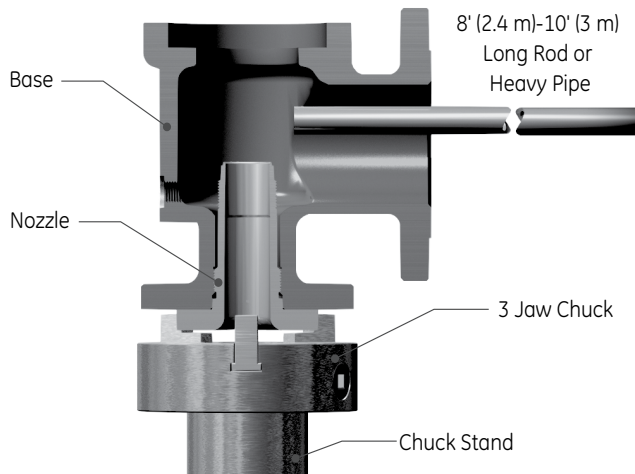
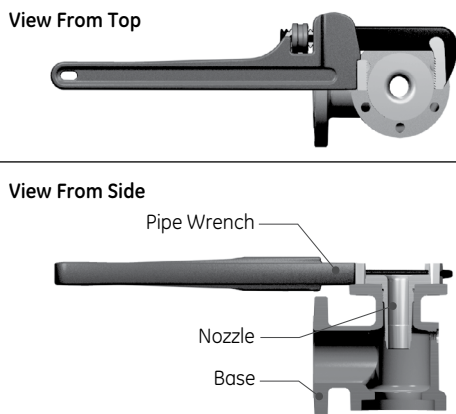

Figure 31: Loosening the Nozzle from the Base
Figure 32: Removing the Nozzle from the Base
- 3. Use a large pipe wrench on the nozzle flange to remove the nozzle from the base (Figure 31).
- Remove the Nozzle from the Valve Base as suggested in Figure 31, or by using a Hex wrench or a pipe wrench on the flange as indicated in Figure 32.